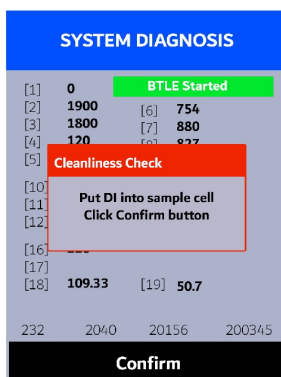

Figure 18.
5. Press **Cleanliness** (**<**). An instruction prompt appears to ask the user to put DI water into the main module sample cell (Figure 18).